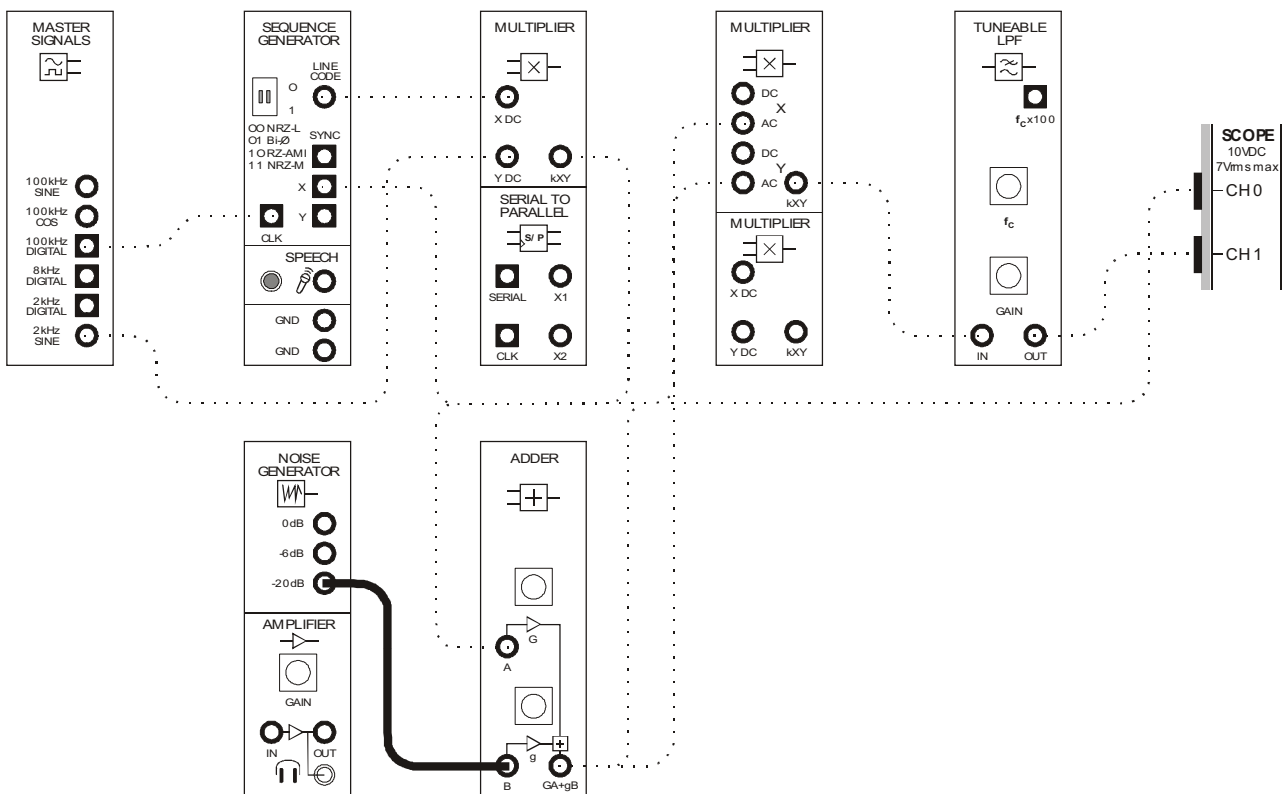

Figure 12
58. Disconnect the lead to the function generator and modify the set-up as shown in Figure 12 below.